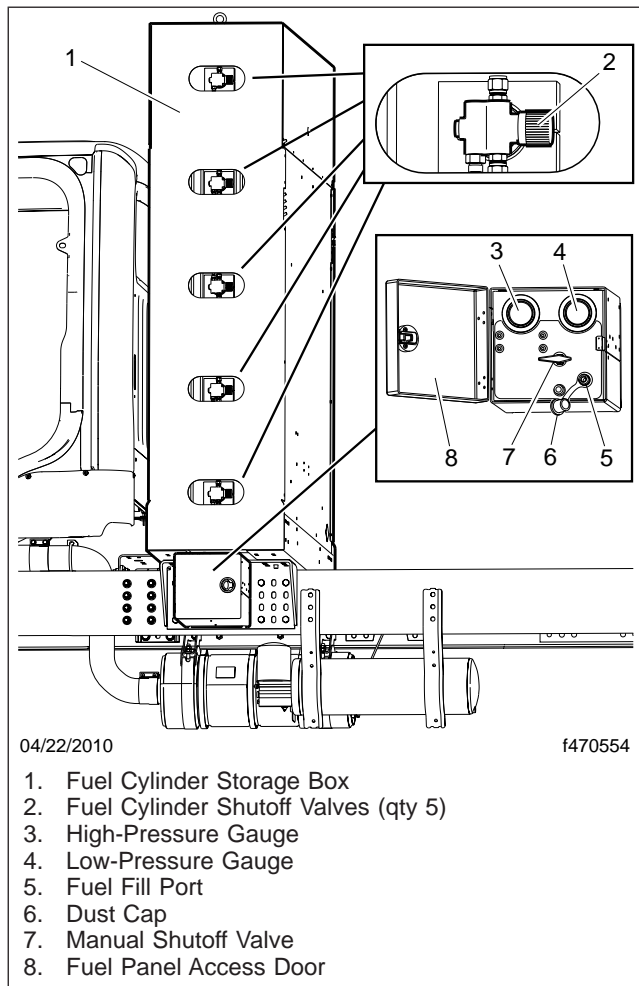

Fig. 16.1, CNG Fuel Cylinder Storage Box (5-cylinder system shown)
2. Ensure all fuel cylinder shutoff valves are open. See Fig. 16.1.